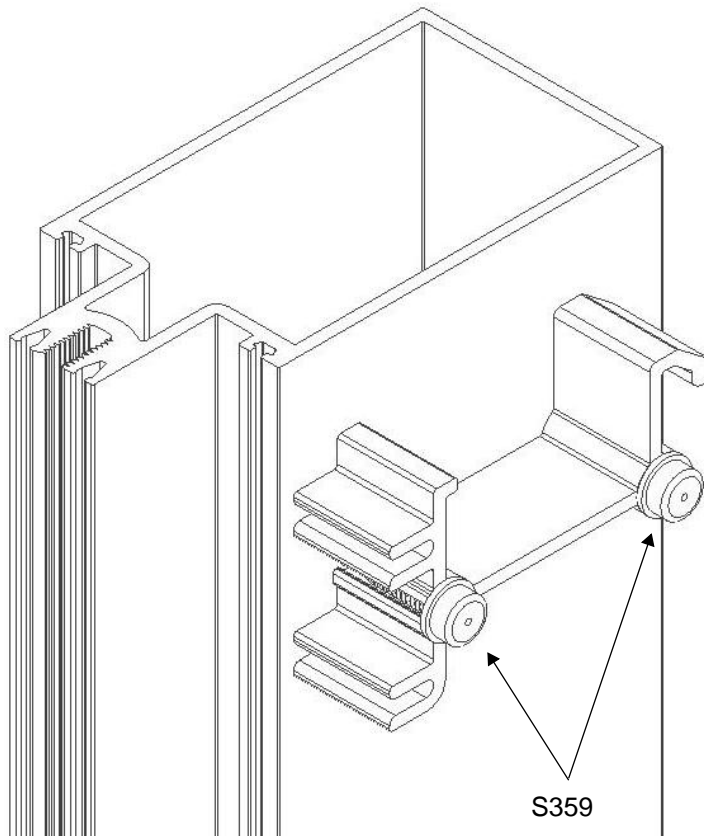

Figure 10: Fasten the shear block to the back member.
- Fasten the roll-over horizontal shear block, using S359 screws, to the vertical using the previously drilled holes. See Figure 10.